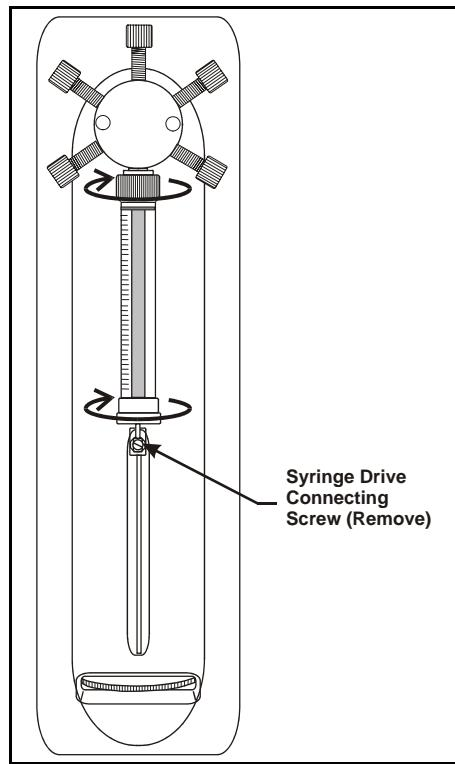

Figure 5-1. Removing the Syringe
1. Using a flathead screwdriver, unscrew and remove the syringe drive connecting screw (see Figure 5-1).